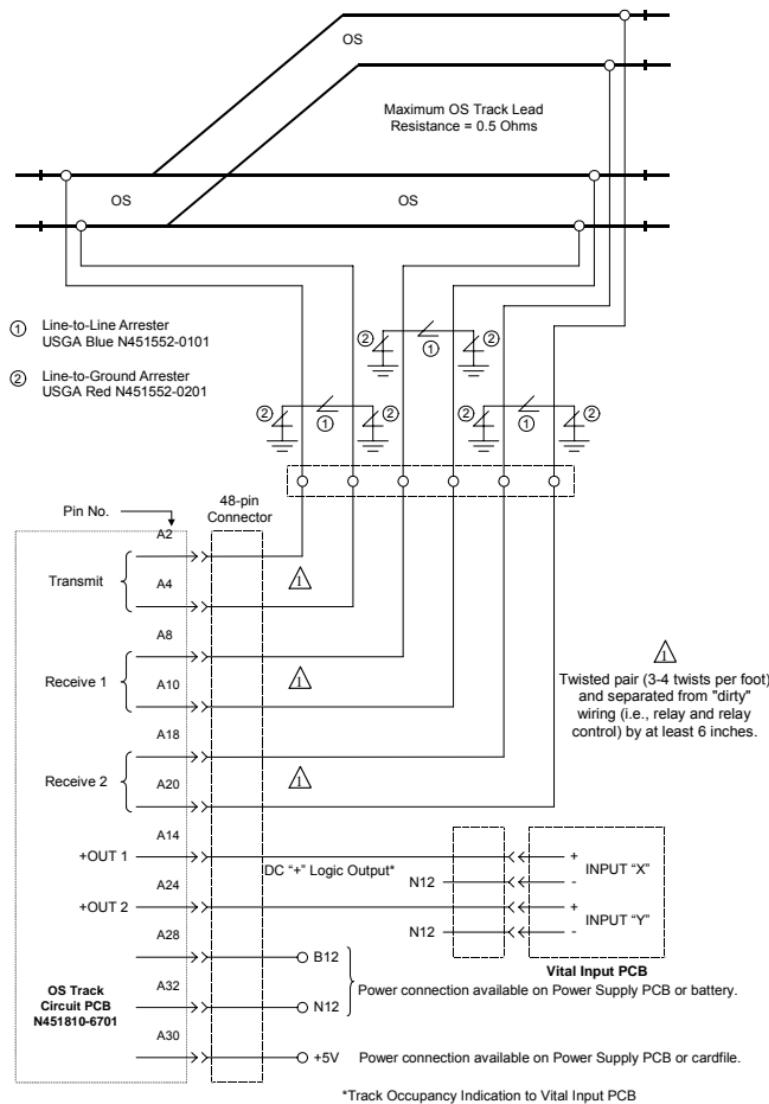

Figure 4-30.OS Track Circuit PCB - Basic Interface Wiring
Figure 4-30 shows the basic wiring of the OS track circuit PCB. Outputs OUT1 and OUT2 must be wired to one of the inputs on the vital input PCB to provide the train detection input to the CPU PCB. OUT1 and OUT2 should each be wired to a "+" input on the vital input PCB, with N12 connected to each negative input.
Lightning arresters (shown in Figure 4-30) must be used in all MICROLOK II OS track installations, otherwise the system could be damaged from lightning surges or operate improperly as the result of transient signals.
1. Connect a voltmeter across each of the outputs of the OS track circuit PCB at the inputs to the vital input PCB (See Figure 4-30). Consult the system installation drawings for test point locations.